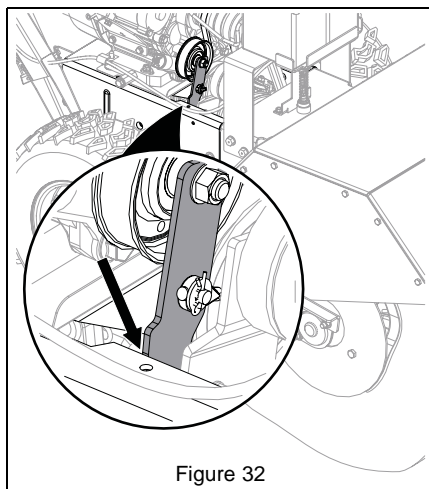

Figure 32
6. With the traction clutch disengaged, make sure idler arm lightly touches the frame. See Figure 32.